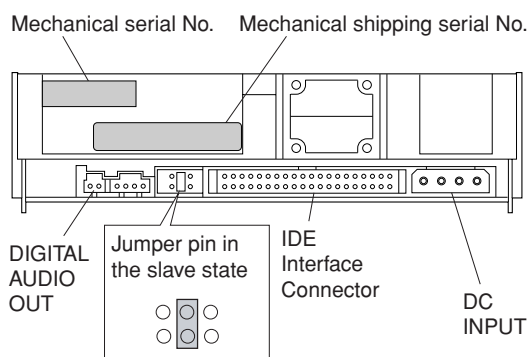

Fig. 6
- Insert the jumper pin of the new CDR mechanical unit at the slave position. (Fig. 6)